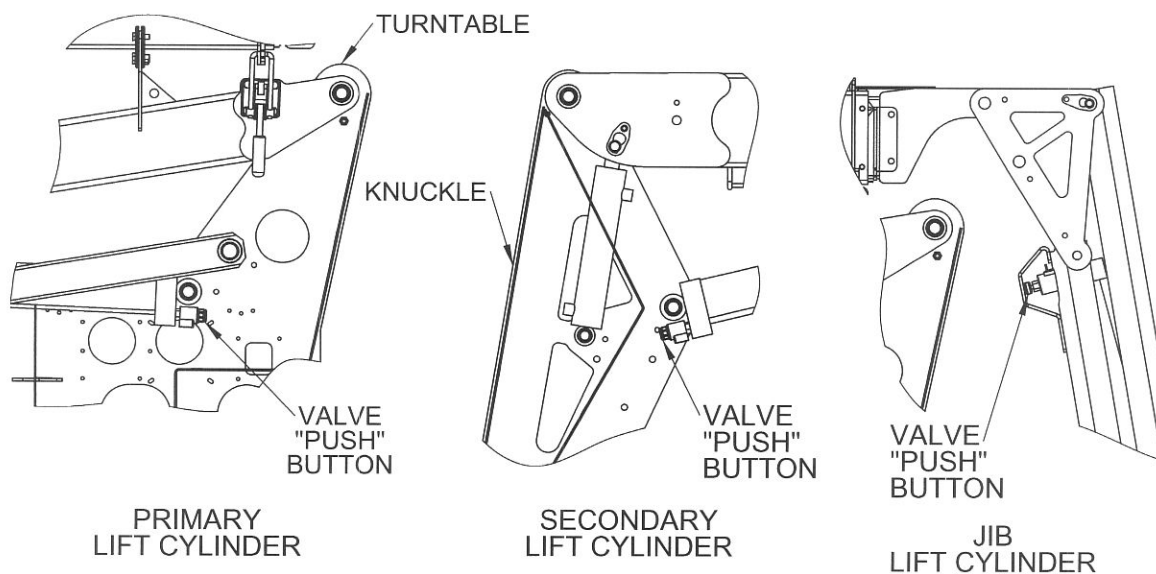

Figure 5-3. Location of Manual Lowering Valves for Lift Cylinder Replacement
5533A / HTA 19 P Aerial Work Platforms have three (3) lift cylinders, use the following procedure to remove and replace faulty or damaged hydraulic cylinders. Refer to Figure 5-3 for the location of these cylinders.